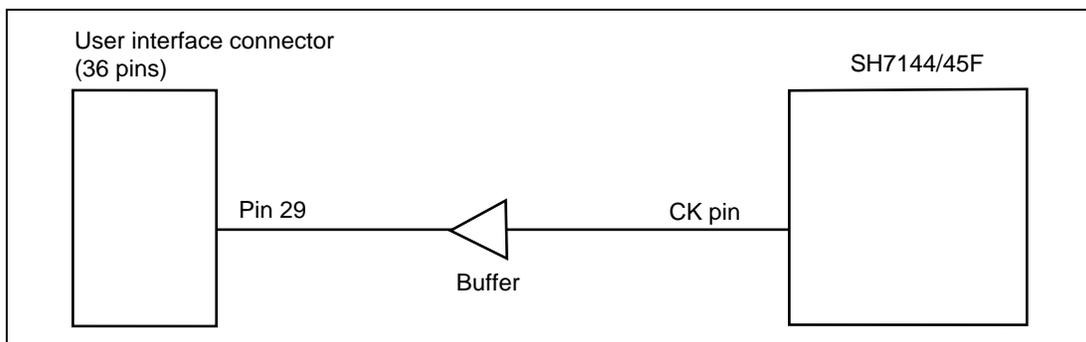

Figure 6.4 Circuit between User Interface Connector (36 Pins) and SH7144 or SH7145F
3. The CK pin is used by the emulator. When the CK pin is directly connected to the interface, operation may be affected by the load capacity and reflection of the interface cable. When the emulator is used, it is recommended that the CK pin between the user interface connector (36 pins) and the SH7144 or SH7145F is connected via the buffer (e.g., 74LVC125) as shown in figure 6.4. The buffer voltage should be Vcc.